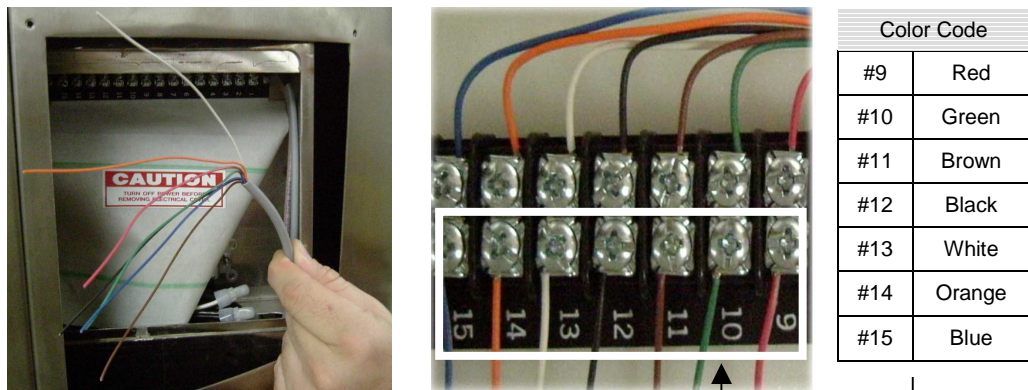

Figure 3.2.U
- Connect control cable to terminal strip located in the top of the electrical box. (See *electrical schematic* **Figure 3.2.0**) Control cable wires connect to #'s 9-15 on the terminal. **(Figure 3.2.U)**